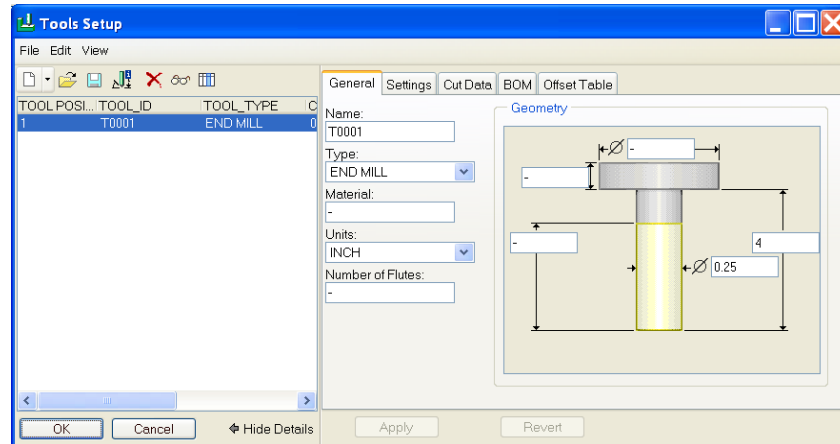

Figure 1.32
4. Tools setup table pops up. Enter the tool values cutter diameter 0.25" and length 4" as shown in Figure 1.32 and APPLY OK.
4. Tool setup table pops up. Click ok to use tool 1 as previous tool (see Figure 1.32).